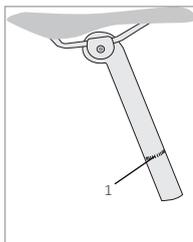

FIGURE 3.8
4. Make sure the minimum-insertion mark on the seatpost (Figure 3.8) can not be seen above the bicycle frame.
⚠ WARNING: A seatpost that is too high can cause damage to your bicycle, decrease your control, and cause you to fall. Make sure the minimum-insertion mark (Figure 3.8) is in the frame.